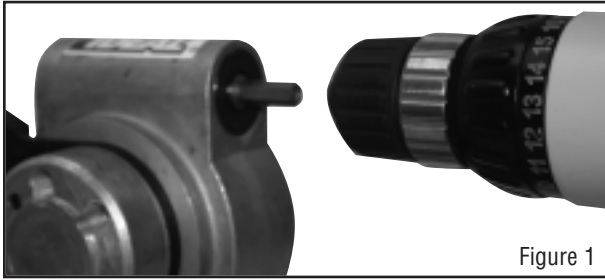

Figure 1
**STEP 1:** Attach cable cutter drive shaft to drill as shown (Figure 1). Tighten drill chuck securely.